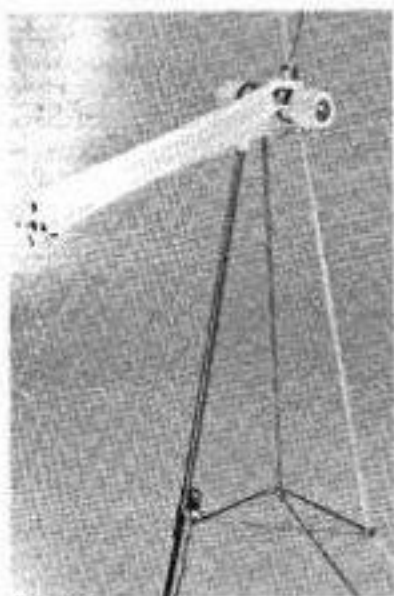

Fig.80 SCLs TO "KNIT" POSI
- (a) Thread up two strands of yarn (M.C. and C.C.) through the overhead feeder unit. Hook C.C. to yarn clip on the feeder rod. (Fig.80)